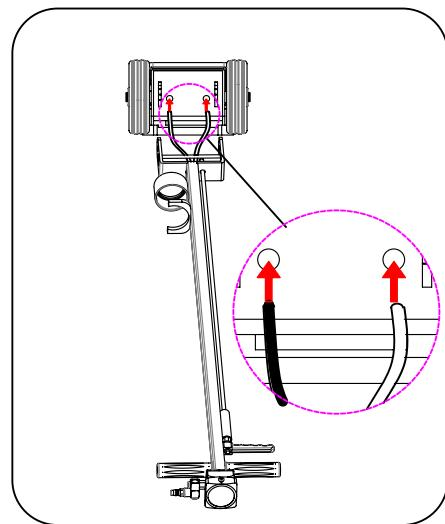

Fig. 02
- For 30000 kg jack, the white hose is connected to the right inlet, the black hose is connected to the left inlet. (see fig.02)